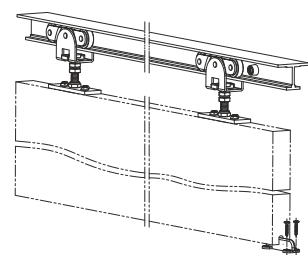

Fig. 7
8. Place the door guide on the floor and insert it partly into the door slot and then align it with the track and mount them with the screw as shown in the Fig.7.